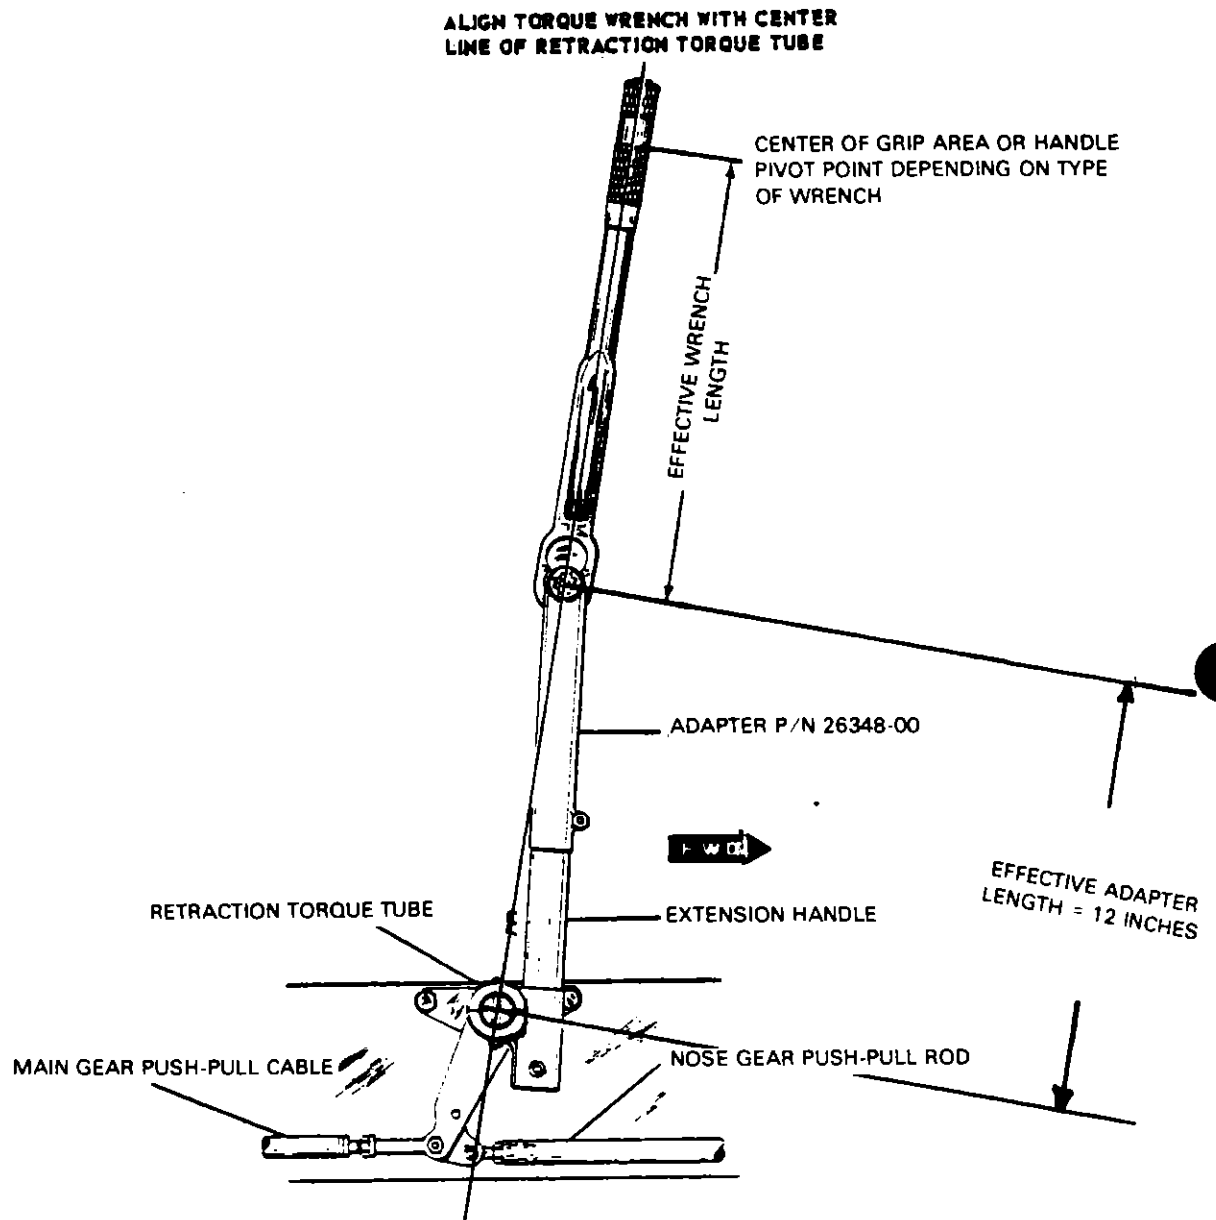

Figure 6-19 Torque Wrench and Adapter Installation
6-58. Checking Landing Gear Retraction Load. (Refer to Figures 6-19 and 6-20.) After the landing gear has been lubricated and properly adjusted as described in the preceding paragraphs, check retraction load by using the following procedure:
- d. On airplanes with Serial Nos. 24-1 to 24-4782 inclusive and 24-4784 to 24-4803 inclusive, remove the red knob on the emergency extension lever and install adapter tool, P/N 26348, on the lever with attaching bolt forward. (Refer to Figure 6-19.)